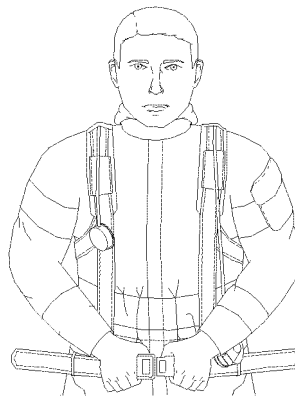

Figure 077-3-23. Securing Quick-Release Buckle for Over-the-Head Method
- (5) Secure quick-release buckle as shown in Figure 077-3-23.